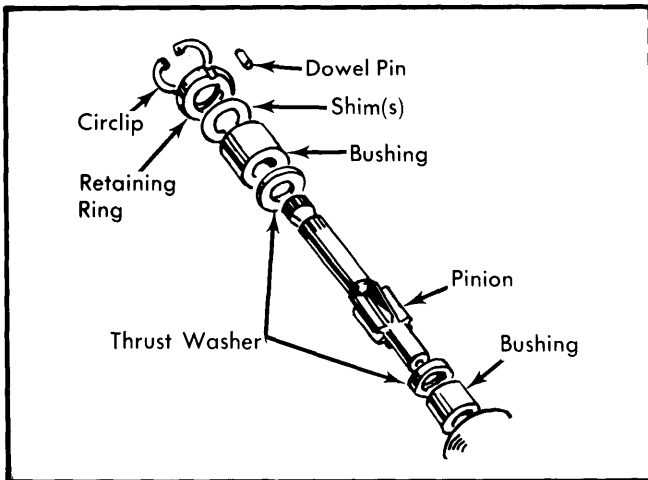

Fig. 3 Detailed View of Spitfire Pinion
- 5) Insert new "O" ring in retaining ring, then install retaining ring and dowel pin in housing. Install circlip and check that pinion end play does not exceed .010" (.254 mm). Adjust shim pack as necessary to meet this specification (See Fig. 3).